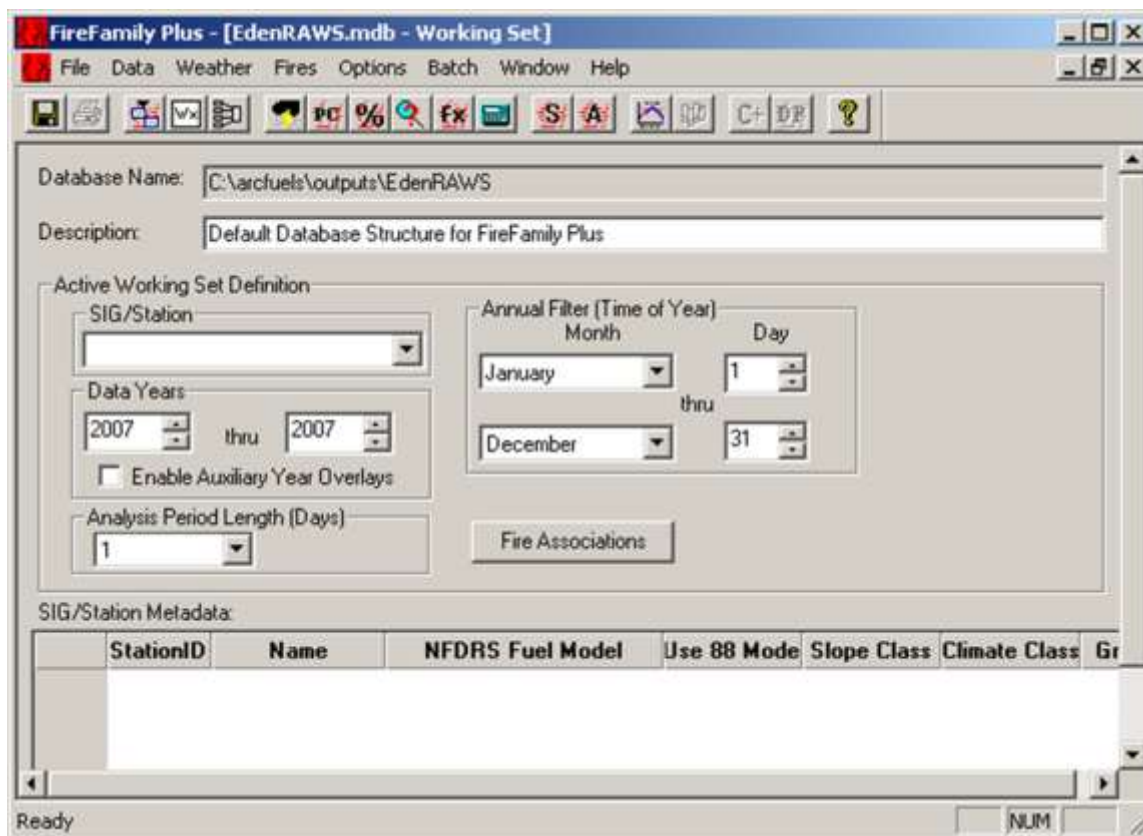

Figure 3-13—FFP home screen for Eden RAWS.
- 5) Create a new FFP database (**FFP→File→New**); name it “EdenRAWS.mdb” and save it in the outputs folder in the ArcFuels directory (fig. 3-13).
- b) *Data Years (1985 – 2012)*: shows the span of the data available, before the import it was simply *Data Years* (see fig 3-13). Type “1985” thru “2012” in the appropriate text boxes, which will allow you to work with data for all the years for the station.